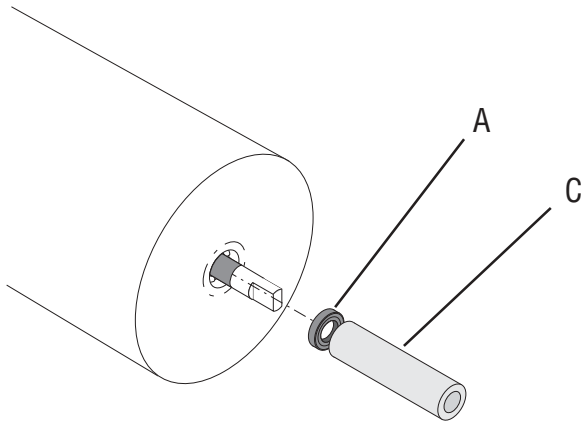

Fig. 3
5. Clean seal and bushing surfaces of the cooling drum very thoroughly. Slide bushing (B) onto auger shaft and insert into bore of cooling drum until it is firmly seated using insertion tool (C).
6. If needed, lightly lube I.D. of cooling drum seal with #M2550.0000 "Lubri-film" to prevent seal roll. Make sure open face of seal is toward cooling drum and slide seal (A) onto auger shaft and insert into bore of cooling drum until properly seated against bushing (B) using insertion tool (Fig. 3).